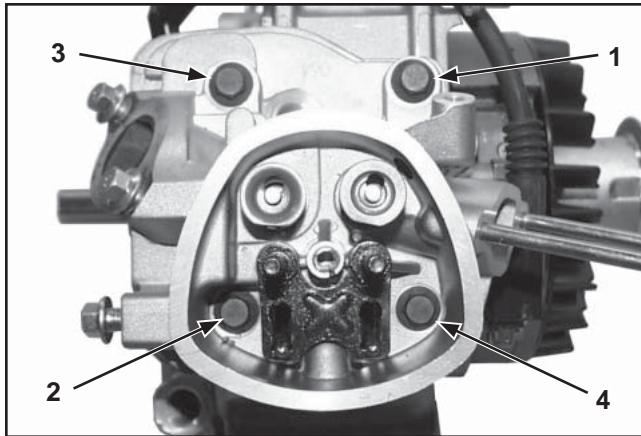

Figure 11-47. Cylinder Head Screws Torquing Sequence.
5. Install the cylinder head and start the four hex flange screws. Torque the screws in increments using the sequence shown. See Figure 11-47. Torque the hex flange screws following the table.